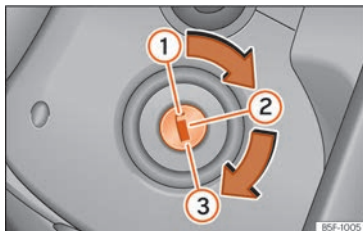

Fig. 216 Ignition key positions.
In this position »» **Fig. 216 ①** the ignition and the engine are off and the steering may be locked.
- Turn the ignition key to the starting position »» **Fig. 216 ③**.
- Turn the ignition key to position » **Fig. 216**  2. The warning lamp  will light for engine pre-heating.
- Turn the ignition key to position » Fig. 216 ①.
- Remove the ignition key in position » Fig. 216 ① » ⚠.